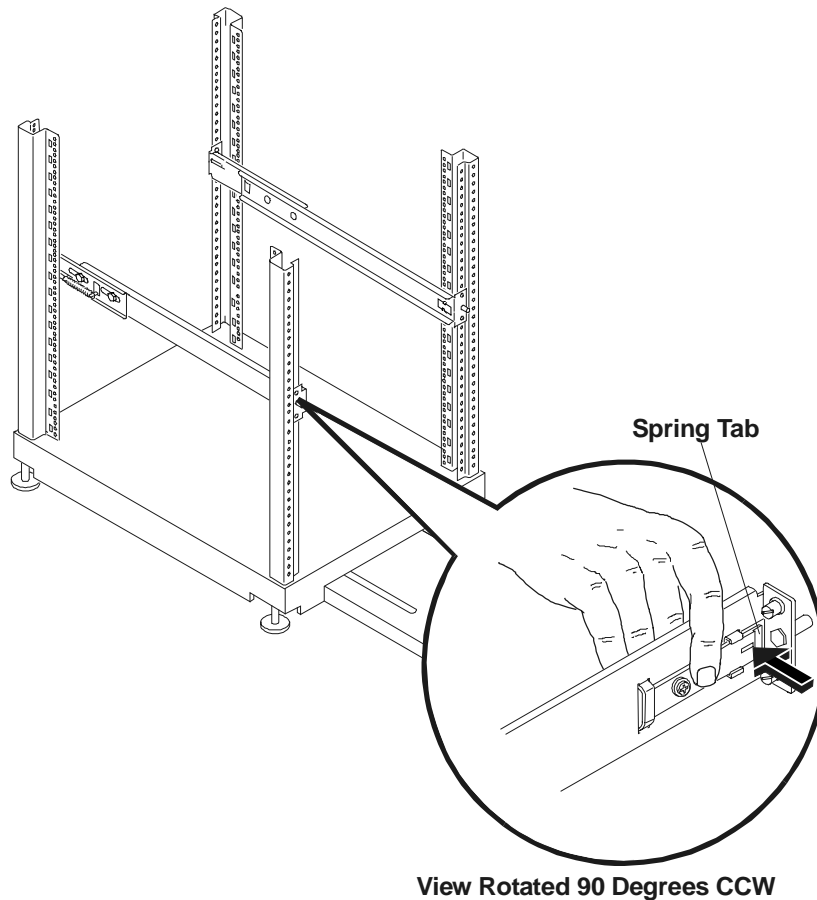

Figure 8-5. Releasing the Outer-Rail Assembly
- a. Place your finger inside the rail at the point shown by the arrow to release the spring tab. See Figure 8-5.
- b. Press in on the spring tab and pull the outer-rail assembly toward you at the front of the rack. See Figure 8-5.